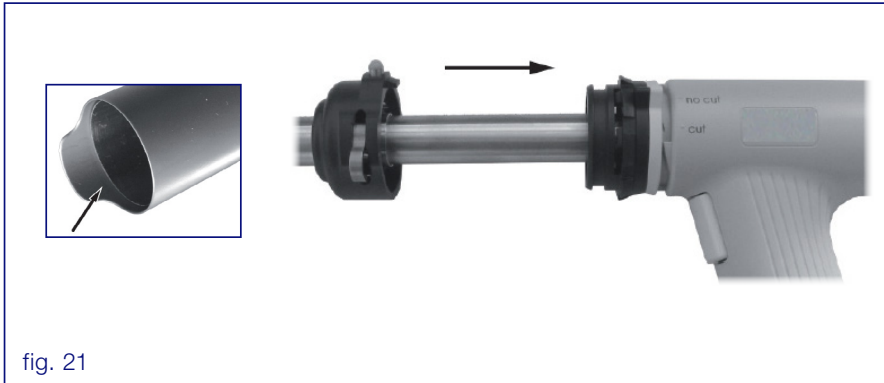

fig. 21
- Slide the Protection Sleeve over the Cutting Module until it clicks into place. The distal end of the Cutting Module is now positioned approximately 1 mm inside the Protection Sleeve (fig. 21).